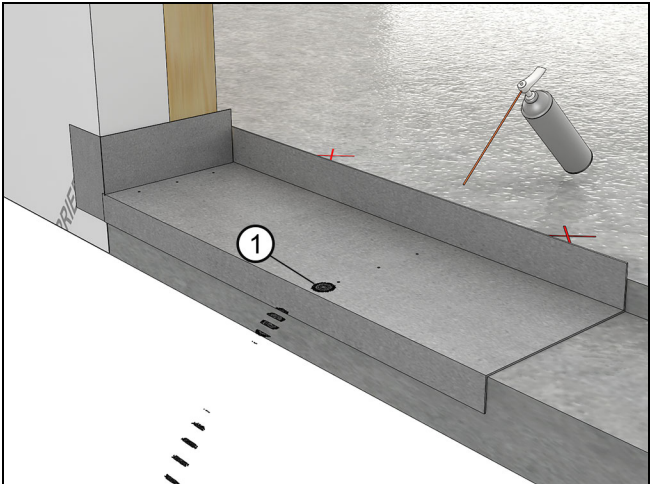

Figure 8
4. Remove the sill slope from the slot and blow out the holes with compressed air. See Figure 8.